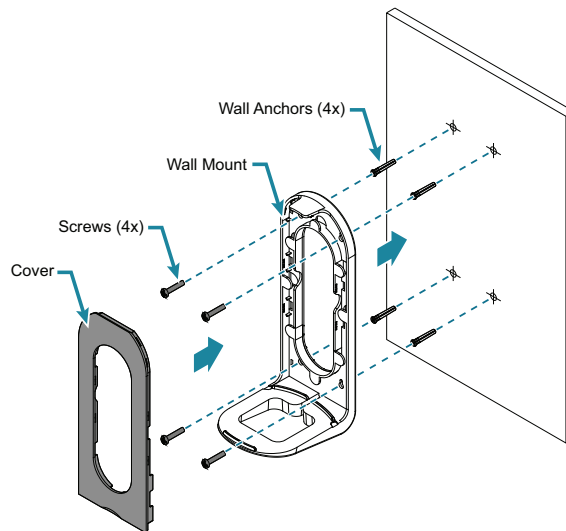

Figure 1. Wall Mount Installation Kit
1. Use the keyholes on the wall mount kit as a template and mark the wall accordingly. See Figure 1.